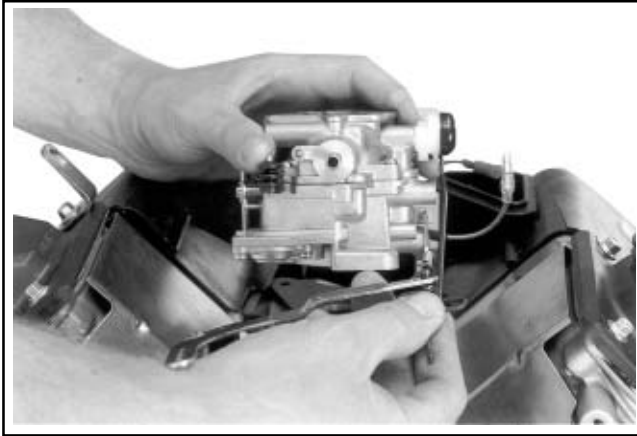

Figure 9-24. Removing Carburetor Assembly with Governor Lever Attached.
3. Remove the carburetor, throttle linkage and governor lever as an assembly. See Figure 9-24.